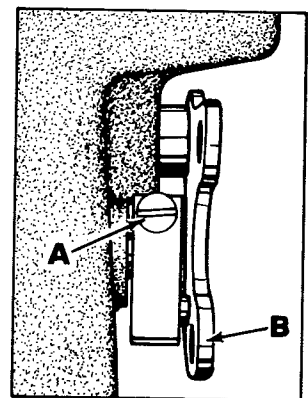
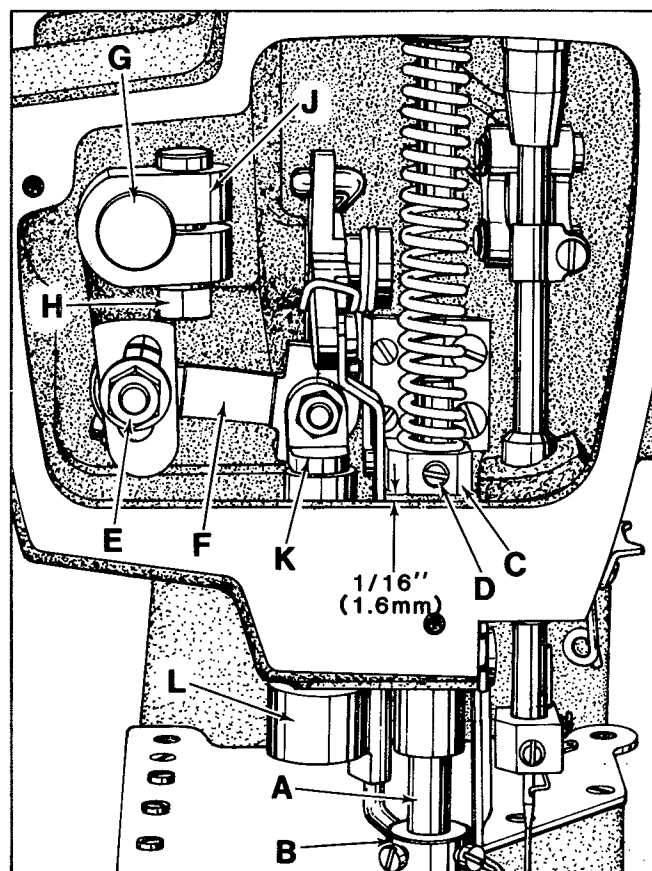
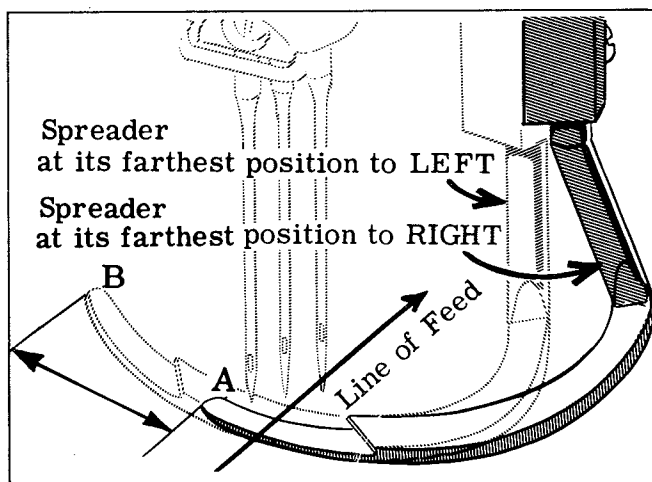
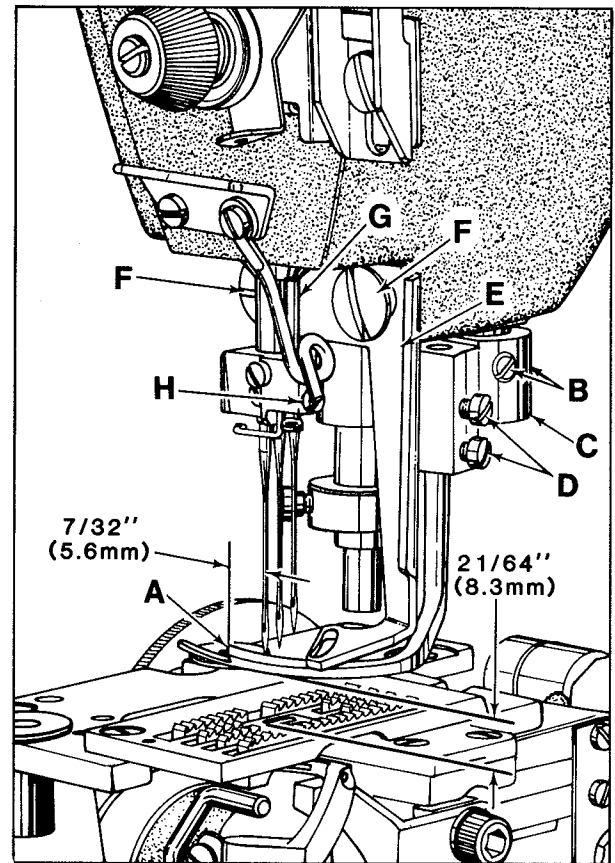

Fig. 13
Fig. 14
Fig. 15
Fig. 16
If adjustment is needed, loosen tension release lever screw (A, Fig. 13), located at the back of the machine and move tension disc separator as required. Retighten screw. After adjustment there should be no binding at any point.
Height of presser bar (A, Fig. 14) is correct when presser foot can be removed by loosening stop collar (B) and depressing foot lifter lever (B, Fig. 13). There should be approximately 1/16 inch (1.6mm) clearance between lower surface of presser bar connection and guide (C, Fig. 14) and bottom surface of head opening in bed casting when foot lifter lever is released and presser foot lying flat on throat plate with feed dog below throat plate.
Adjustment can be made by turning handwheel to position needle bar at bottom of stroke. Loosen screw (D, Fig. 14) and while holding presser foot down on throat plate, position presser bar connection and guide as required to attain specified clearance and retighten screw.
Set presser bar stop collar (B, Fig. 14) so presser foot does not contact spreader when raised.
Set the arc travel of the spreader point (A) to point (B) figure 15 as listed below, by loosening nut (E, Fig. 14) and moving the connecting link (F) up or down to the desired amount of arc travel.
With needle bar at top of its stroke and spreader at extreme left end of its travel, point of thread carrying notch (A, Fig. 16) should extend $7/32$ inch (5.6mm) to the left of the centerline of left needle. Adjustment can be made by loosening screws (B), reposition spreader as required being sure to push down on spreader holder carrier (K, Fig. 14) and up on spreader holder (L) while tightening screws (B, Fig. 16) because spreader holder (C) acts as lower thrust collar for spreader holder carrier.
Bottom surface of spreader should be set $21/64$ inch (8.3mm) from top of throat plate (See Fig. 16). At extreme right end of travel, spreader must be set to clear the shank of left needle by $1/64$ to $1/32$ inch (.4 to .8mm). Adjustments can be made by loosening screws (D), reposition spreader as required and retighten screws.
Stationary thread guide (E, Fig. 16) should be set to clear right needle by approximately $3/32$ inch (2.4mm). Attaching screws (F) will allow repositioning as required. Moveable thread eyelet (G) should be positioned with its eye directly over the front end of slot in stationary thread guide (E). With needle bar at bottom of stroke, lower surface of thread eyelet (G) and top of thread guide (E) should have the clearance equivalent to the shank of a Type 121 needle, approximately .080 inch (2mm). Screw (H) will allow repositioning as required.